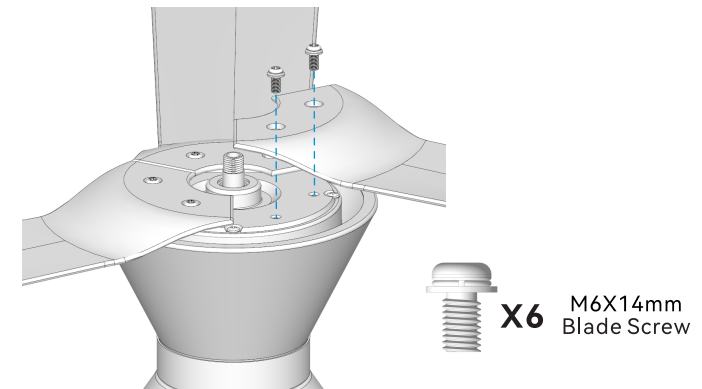

Fig. 1.1
1.1 Locate the 6 blade attachment screws included in the hardware pack. Use these screws to firmly attach each blade to the motor hub, as demonstrated in Fig. 1.1.